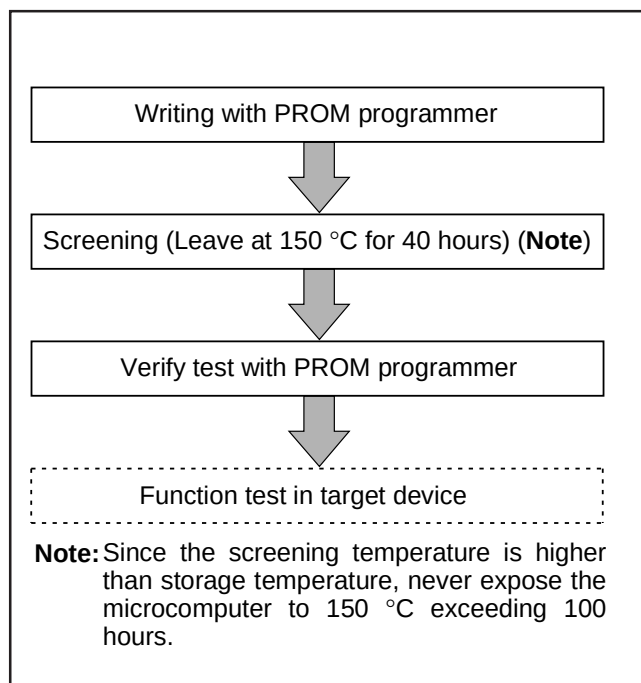

Fig. 56 Flow of writing and test of the product shipped in blank
(2) Notes on handling
① For the One Time PROM version shipped in blank, Mitsubishi Electric corp. does not perform PROM writing test and screening in the assembly process and following processes. In order to improve reliability after writing, performing writing and test according to the flow shown in Figure 56 before using is recommended (Products shipped in blank: PROM contents is not written in factory when shipped).
(3) Difference between Mask ROM version and One Time PROM version